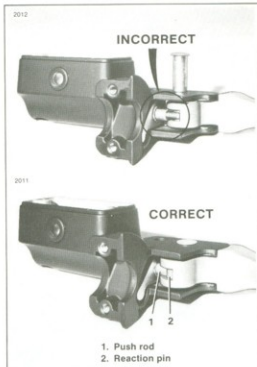

Figure 2-49. Hand Lever Assembly
See Figure 2-49. Ensure that push rod and switch actuator (1) is inserted into hole in reaction pin (2). There must not be any binding of the hand lever when depressed. If hand lever does bind, push rod and switch assembly is hitting the inside master cylinder casting wall.